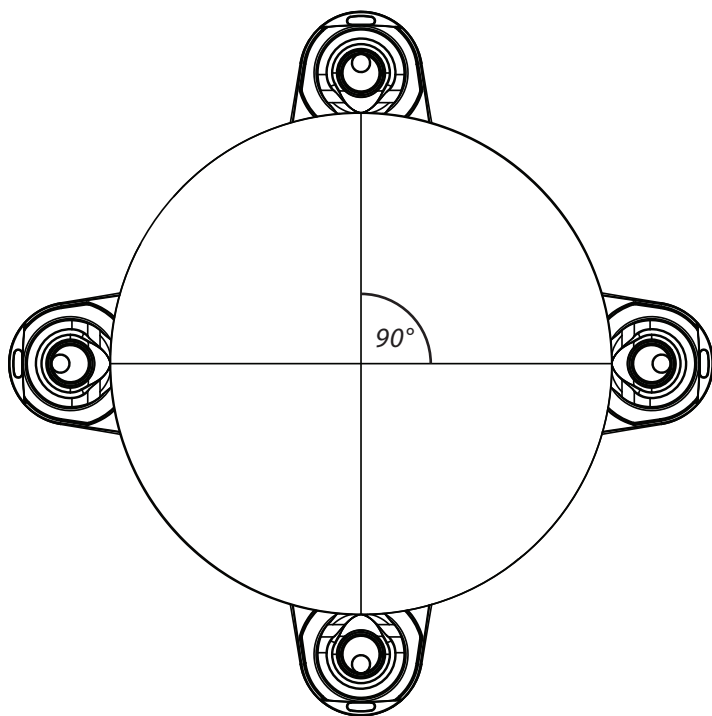

FIG. 5
Flip the Bucket (F) upside down and arrange the Caster assemblies evenly around the bottom edge [FIG. 5].